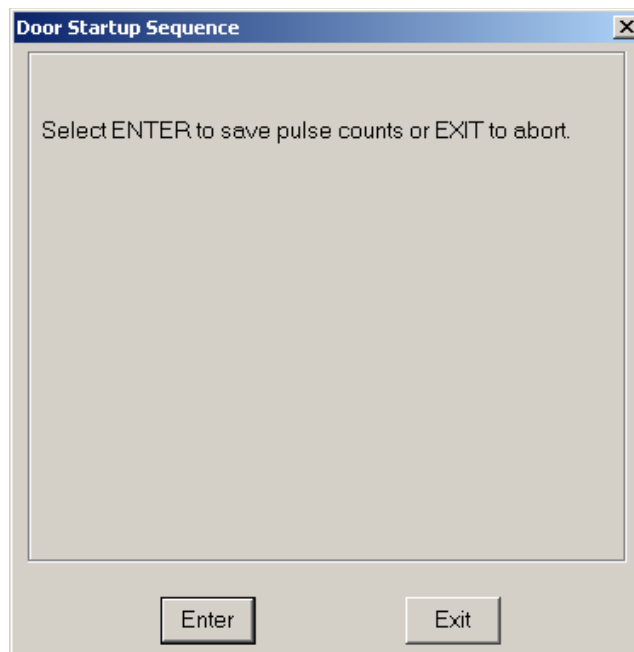

Figure 33
4. A fourth **Door Startup** window replaces the third **Door Startup** window and prompts the user to save pulse counts by enabling the ENTER function by positioning the cursor on the **ENTER** button and clicking once with the pointing device. If it is not desirable to continue, but desirable to exit the Door Startup then position the cursor on the **EXIT** button and click once with the pointing device. Refer to Figure 33.